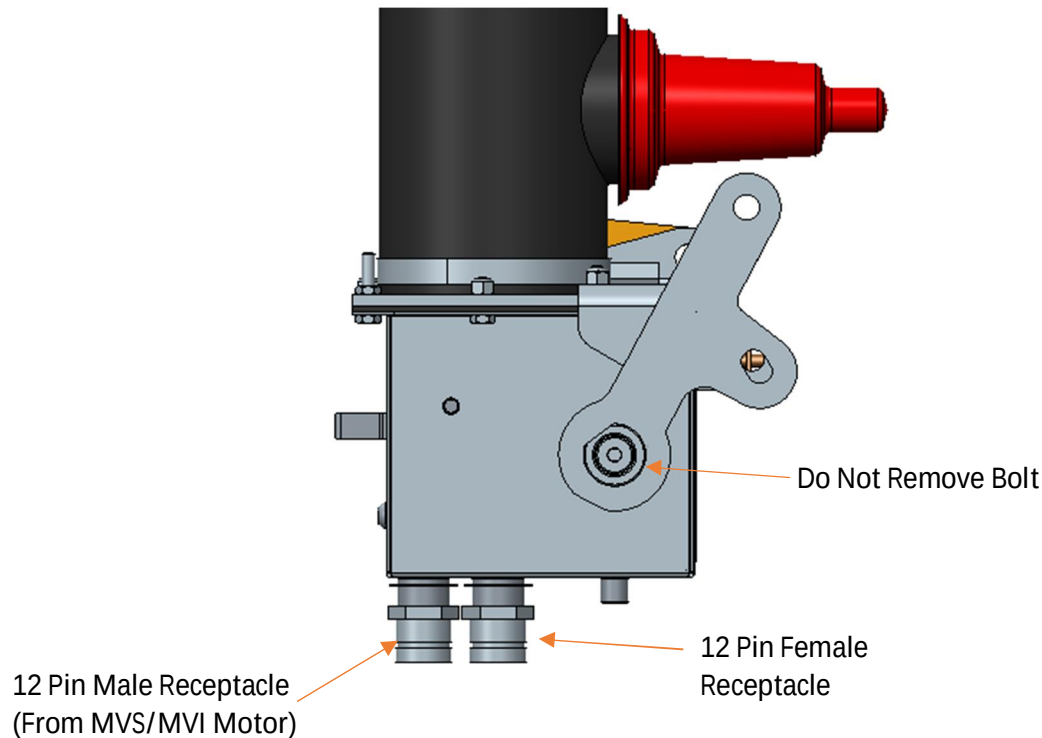

Figure 21 - Tru-Break 12 Pin Receptacles
1. If mating switchgear is outfitted with a motor operator, remove 12 pin cable from the motor box and install onto the Tru-Break 12 pin female receptacle. Install provided 3' electronic lockout cable from the Tru-Break male receptacle to the motor box receptacle. See Figures 21 and 22.